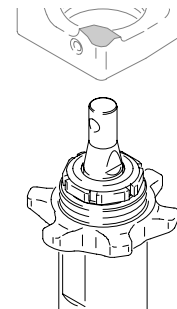

Fig. 11
1. Fig. 11. Enter Diagnostic (Manual 309378). Short press DTS button to send hydraulic piston rod down. Screw in pump until holes in pump rod and hydraulic rod align.